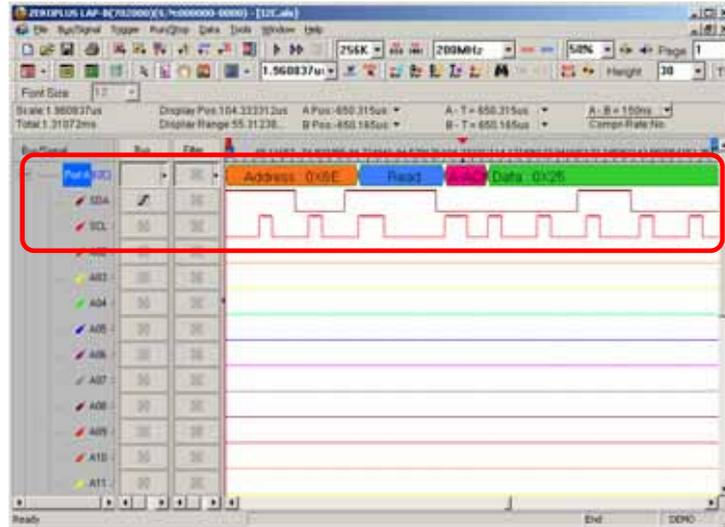

Fig 4-69 – Waveform Analysis
**Step 8.** Click **Run** to acquire I2C signal from the tested I2C circuit. Refer to Fig 4-69.